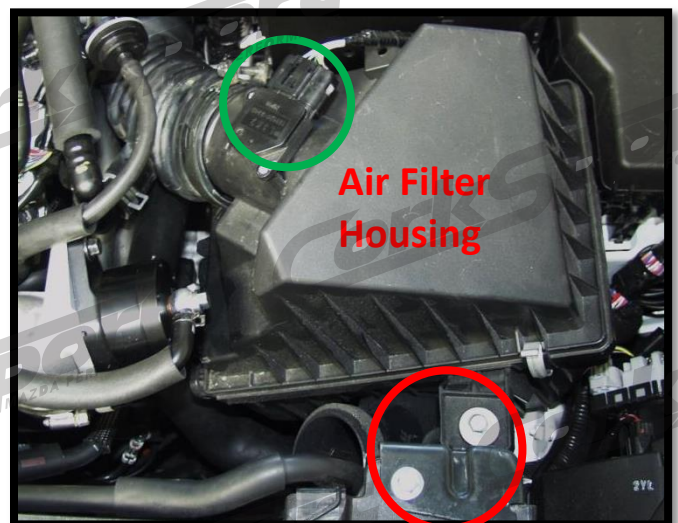

Figure 1c
- c) Unplug the MAF housing sensor. (green circle in Figure 1c).
- d) Remove the two 10mm bolts on the air filter housing bracket and remove the bracket (shown in red circle in Figure 1c).
- d) Connect MAF sensor Wiring. (Reference **Figure 1c**).
c) Unplug the MAF housing sensor located on the air filter housing (green circle in Figure 1c).
d) Remove the two 10mm bolts on the air filter housing bracket and remove the bracket (shown in red circle in Figure 1c).
- g) **Connect MAF sensor Wiring.** (Reference **Figure 1c**).